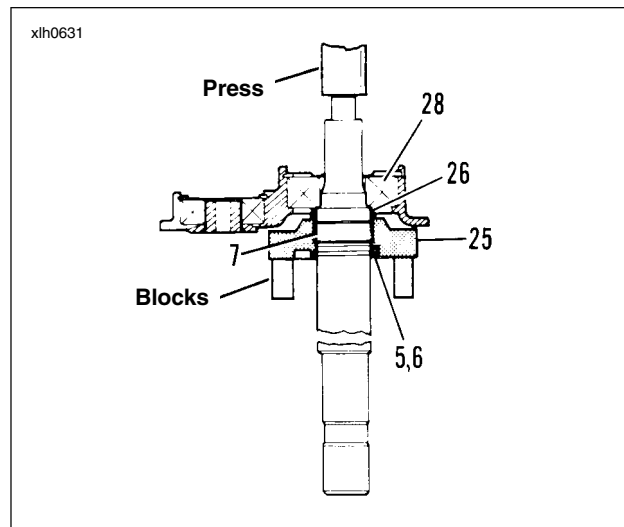

Figure 6-39.
11. See Figure 6-39. Place mainshaft and access door assembly on arbor press with support under mainshaft 4th gear (25). Press on end of shaft until mainshaft is free of access door bearing. Remove spacer (26), mainshaft 4th gear (25) and split bearing (7).
12. Remove thrust washer (6). Expand and remove remaining retaining ring (5).